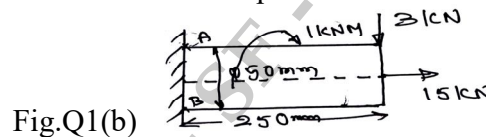

Fig.Q1(b)
- b. A circular rod of diameter 50mm is subjected to loads as shown in Fig.Q1(b). Determine the nature and magnitude of stresses at the critical points. (12 Marks)